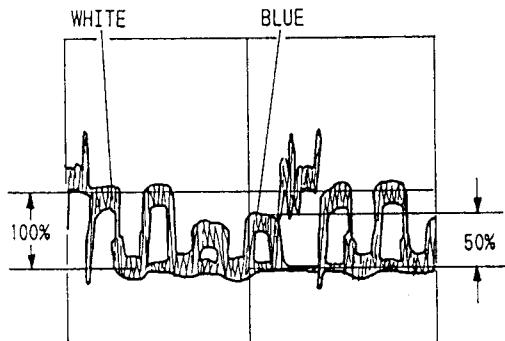

Fig. 4-7
**9) Matrix Adjustment (Figs. 4-7, 4-52)**